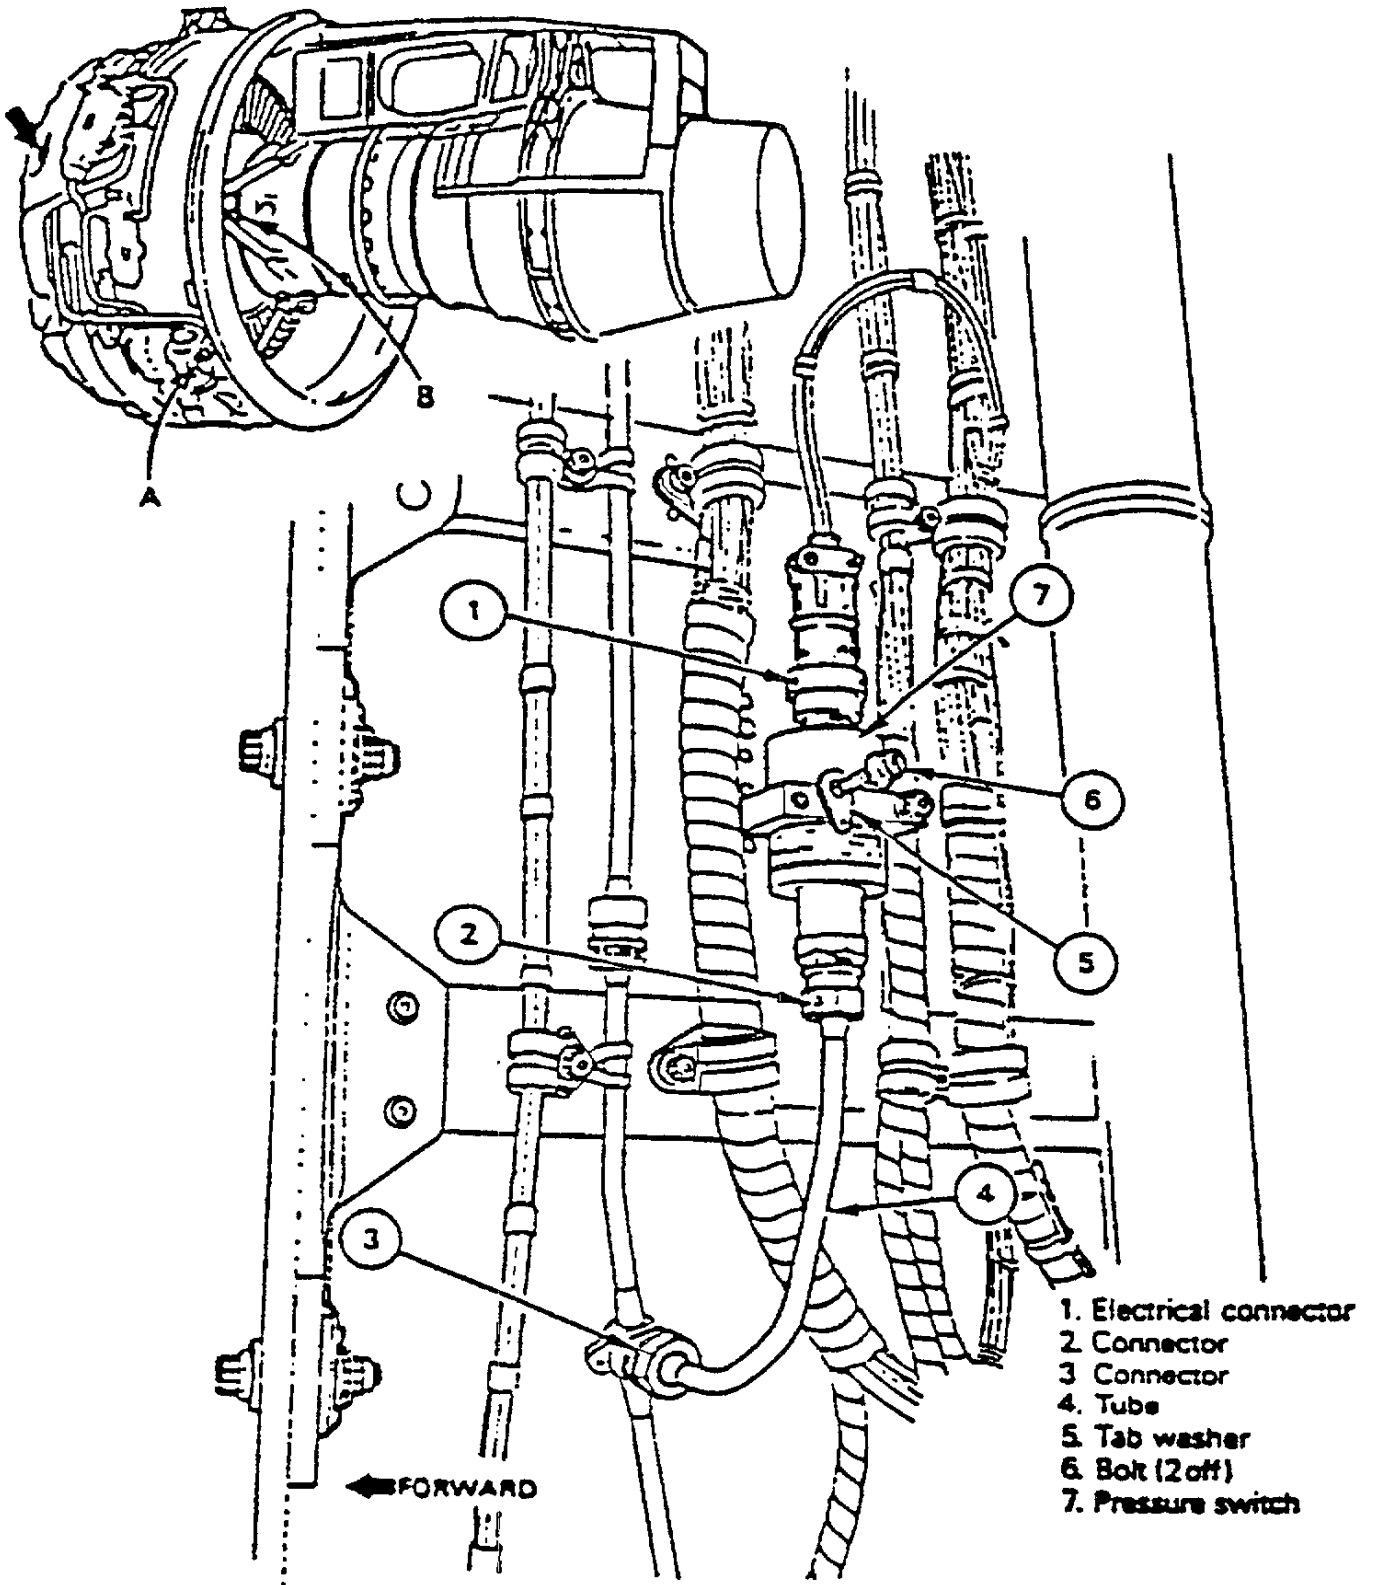

FIGURE 1
MM 73-21-23 FIGURE 1 542M7305
(SEE FIGURE 1)
VALVE SOLENOID, POSITIONED AT ARROW A, FIGURE 1.
CONNECTORS (3) AND (2), THEN WIRELOCK. (SEE FIGURE 1)